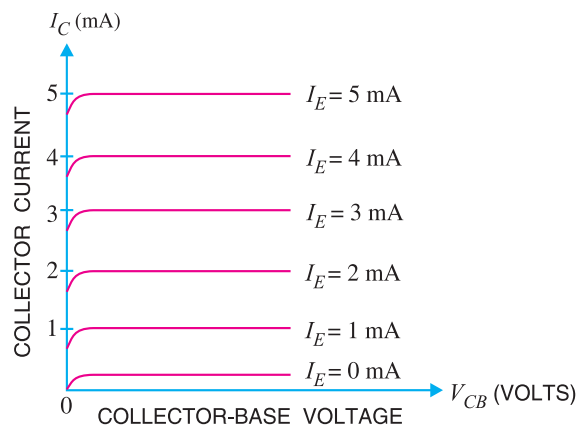

Fig. 8.15
2. Output characteristic. It is the curve between collector current I_C and collector-base voltage V_{CB} at *constant emitter current I_E . Generally, collector current is taken along y -axis and collector-base voltage along x -axis. Fig. 8.15 shows the output characteristics of a typical transistor in CB arrangement.